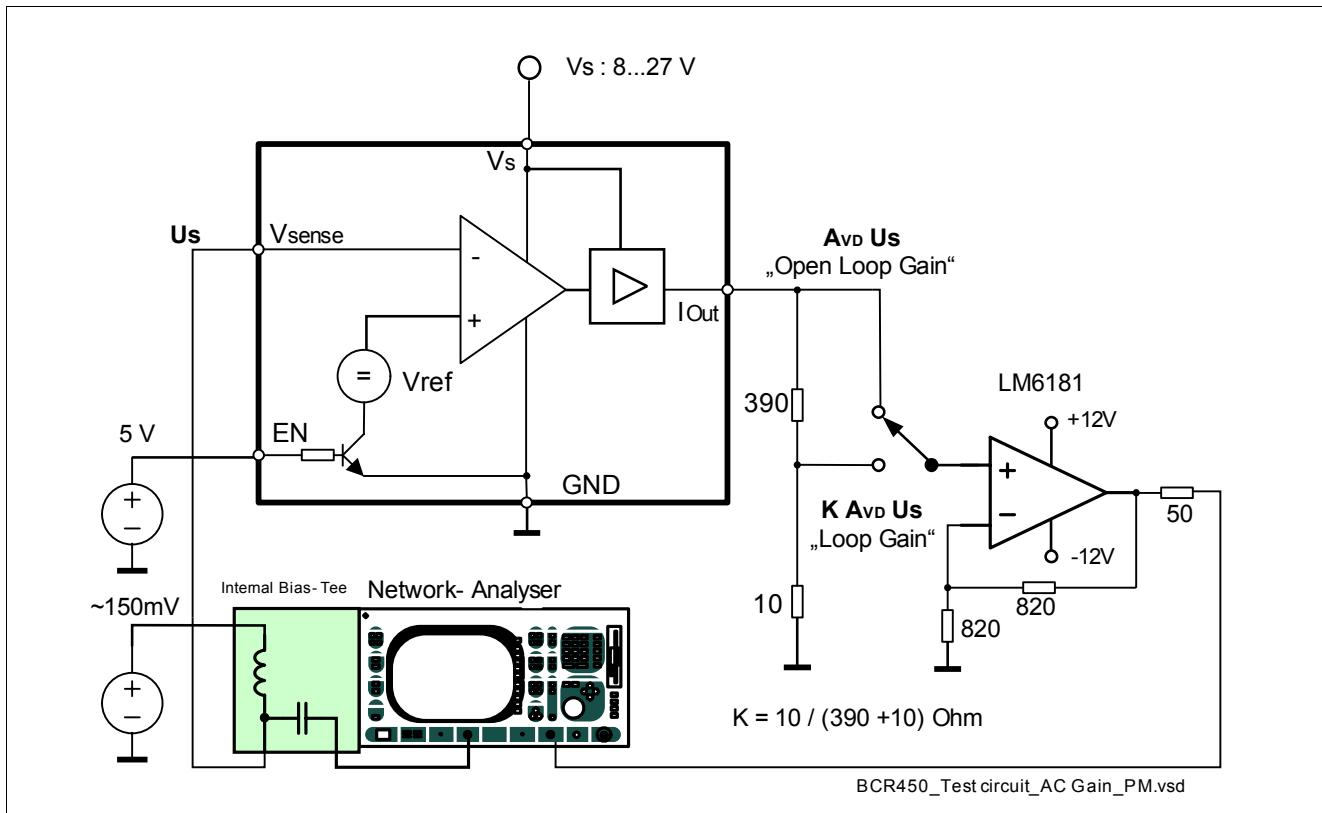

Figure 3 Electrical test circuit for open loop gain, loop gain and phase margin
1)  $V_{\text{out}} = 6 \text{ V}$ ; S2, S6, S8, S9 = on;  $R1 = 390 \Omega$ ;  $R2 = 10 \Omega$ , see Figure 3